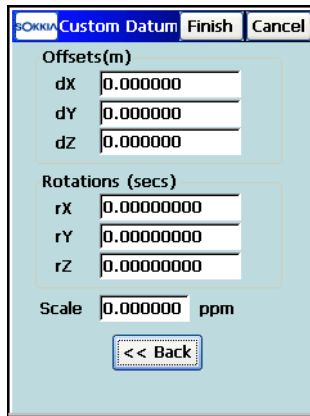

Figure 4-90. Custom Datum Parameters
4. On the next *Custom Datums* screen (Figure 4-90 on page 4-70), set offsets, rotations, and scale for the new datum. Tap **Finish** when done.